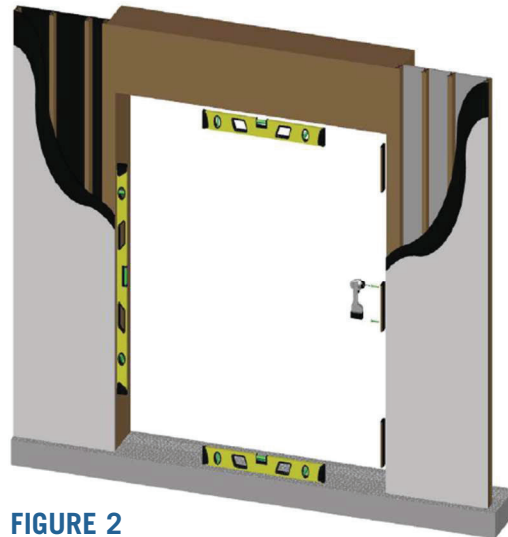

FIGURE 2
3. Once you are sure that the frame fits properly in the opening, it is time to prepare the opening for the new system. If the opening needs to be shimmed, go ahead and apply the shims as necessary. There should still be at least $\frac{1}{2}$ " of clearance around the entire system. (Fig.2)